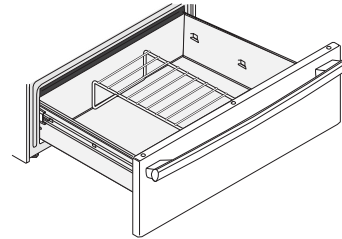

Figure 33: Upright position
- In the upright position (Figure 33) to allow low profile food items to be placed both under and on top of the rack (for example, rolls or biscuits on top of the rack and a casserole dish underneath).